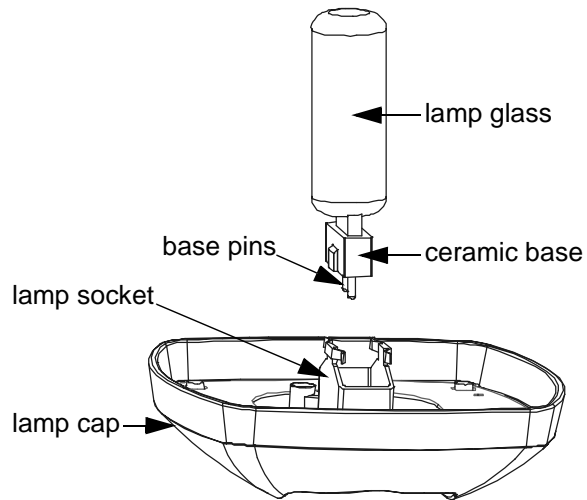

Figure A.2. Installing the Lamp
3. Remove the old lamp from the socket by the base. Refer to Figure A.2.
4. Holding the new lamp by its base, align the base pins to the socket and carefully push the lamp into the socket. Refer to Figure A.2.